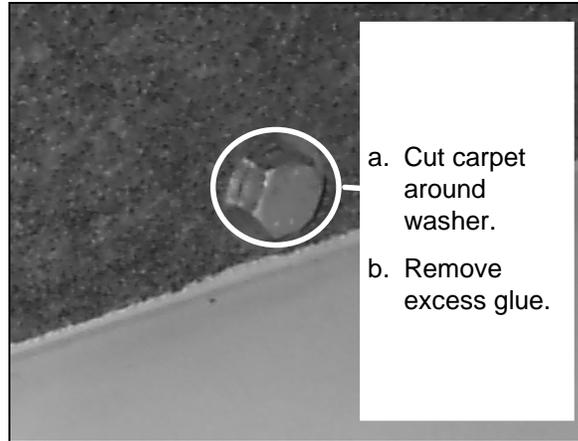

FIGURE 6: BOLT
- a. With a knife, enlarge hole in carpeting to allow washer to come into contact with metal structure without touching carpeting (fig. 6).